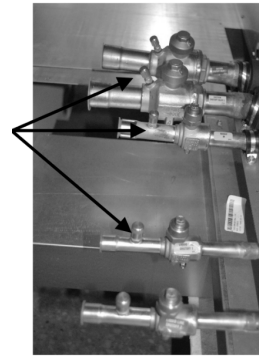

Figure 6: CU Connections
5. Connect the manifold set to the condensing unit with one hose on the suction line service valve, one hose on the liquid line service valve, and a third hose on the reheat line service valve. The vacuum pump must be connected to the manifold set using a 9.5 mm (3/8") vacuum rated hose. Figure 6 shows two circuits. The first circuit has a reheat line, and the second circuit is just the suction and